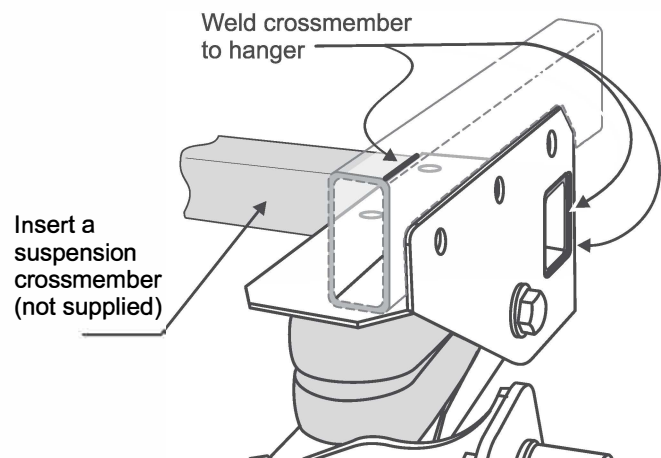

Fig. 4 Suspension crossmember installed
- Use a 2"x3"x 1/4" (minimum) structural steel tube section. Measure width of trailer and saw cut a piece to that length. Slide tube through corresponding opening in the driver and passenger-side hangers. Drill two holes at each end and bolt suspension crossmember to hanger or weld it at each end (fig. 4).